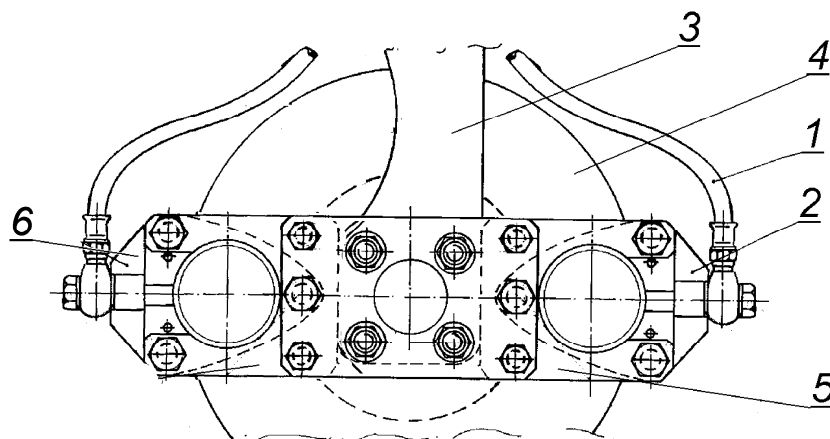

Figure 10-4 Brake caliper
10.2.1 Removal and installation the main wheel (see Figure 10-4)